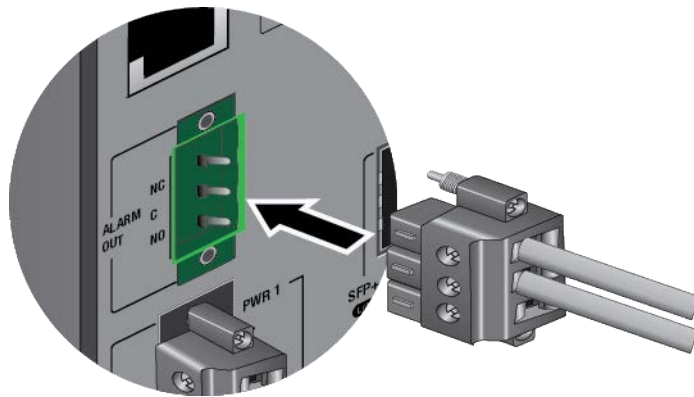

Figure 45. Inserting the Alarm Out Plug into the Alarm Out Connector
8. Insert the Alarm Out plug into the Alarm Out connector. Refer to Figure 45.